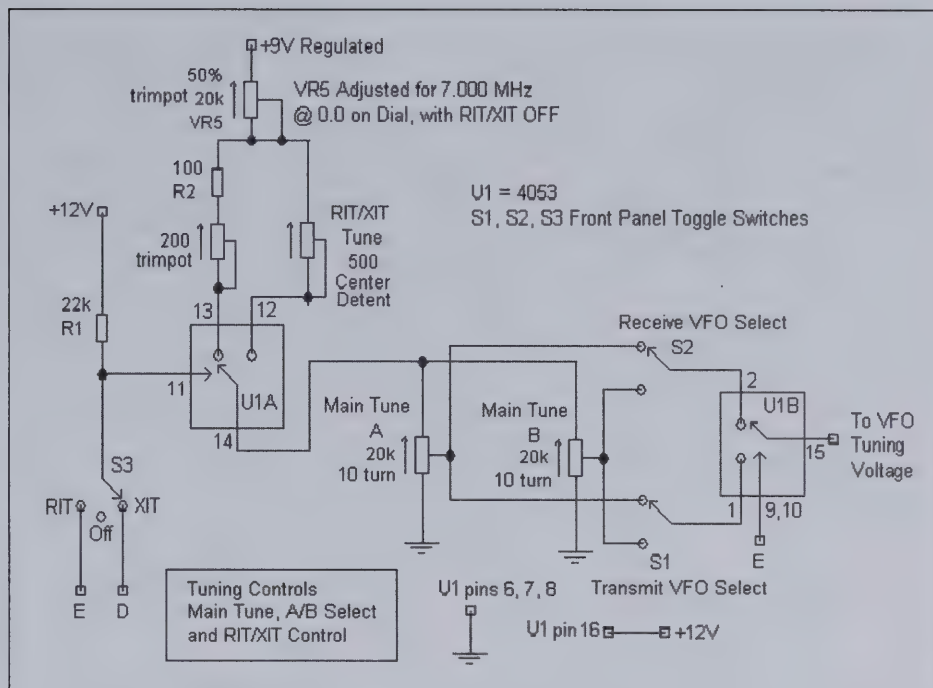
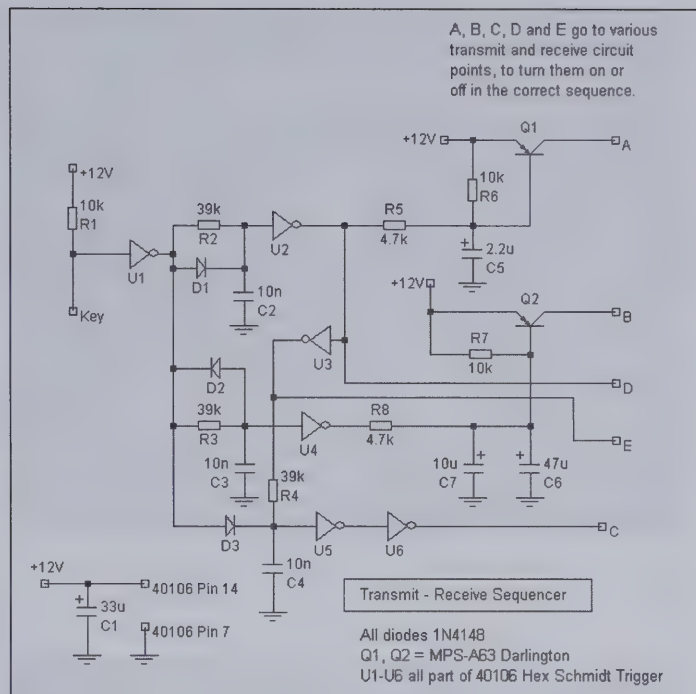

Figure 5—VFO tuning controls.
Figure 12—Transmit—Receive sequencer.
Front panel controls and some switching allow either of two ten-turn potentiometers to control the VFO, and the different potentiometers can be switched to the VFO on transmit and receive, allowing split operation (Figure 5). There is also the option to switch in an incremental tuning potentiometer on either transmit (XIT) or receive (RIT). The two main tuning controls will each cover the entire range of the radio. The incremental tuning potentiometer tunes about +2 kHz from the frequency
Transmit—Receive switching is done by a T/R sequencer that mutes the receiver before enabling the transmitter, and does not unmute the receiver until the transmitter has been disabled (Figure 12). It also starts the transmit carrier oscillator before powering the driver stage, and toggles the
The T/R sequence occurs as follows. Referring to Figure 12, a key down condition causes the output of U1 to be high. Diodes D1 and D3 then cause U2, U3, U5, and U6 to immediately toggle, which causes 12 v. to appear at A (transmit carrier oscillator) and C (receiver mute). At the same time, D goes low and E goes to 12 v, thus toggling the receive and transmit frequency controls (see Fig. 5). The R3/C3 network causes U4 to toggle slightly later, causing 12 v. at B, which switches the antenna to the power amplifier and turns on the transmit driver amplifiers. When the key is up, U1 goes to a low voltage. U4 then toggles immediately, causing the voltage at B to disappear, shutting off the transmit driver amplifiers and switching the antenna back to the receiver. Meanwhile, the inputs to U2 and U4 must now discharge through R2/C2 and R3/C3, causing a small delay before U2 toggles and removes voltage from the transmit carrier oscillator (A). At the same time, voltage D goes to 12 v. and almost immediately thereafter voltage disappears from E, thus toggling the receive and transmit frequency controls. Finally, because U2, U3, U5 and U6 must all toggle in sequence before the condition at C changes, the receiver unmutes last. All of this sequencing thus allows the carrier oscillator to come on a short while before the transmitter goes on the air. In reverse, the transmitter goes off the air before the carrier oscillator, thus allowing a steadier tone to be transmitted. Likewise, the receiver mutes first and unmutes last so that it does not react to minor frequency changes caused by switching.